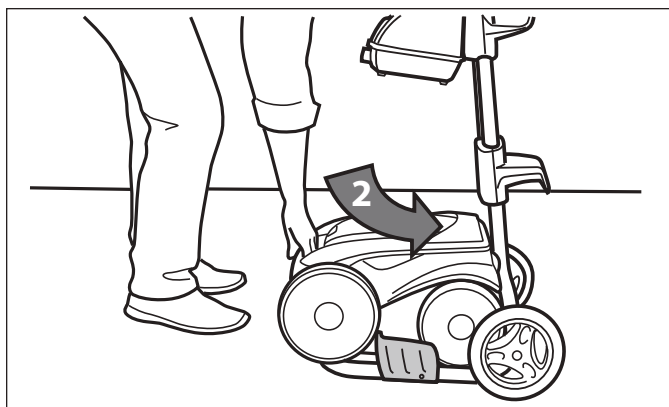

Figure 29. Roll Cleaner onto Place on the Caddy
2. Roll the unit into place onto the caddy. Refer to Figure 29.